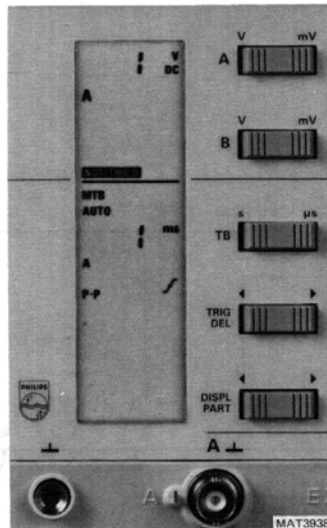

Figure 13.1 SOFTSTART condition.
- 6 – Check that the front controls of the oscilloscope are set in the softstart condition as indicated in figure 13.1.